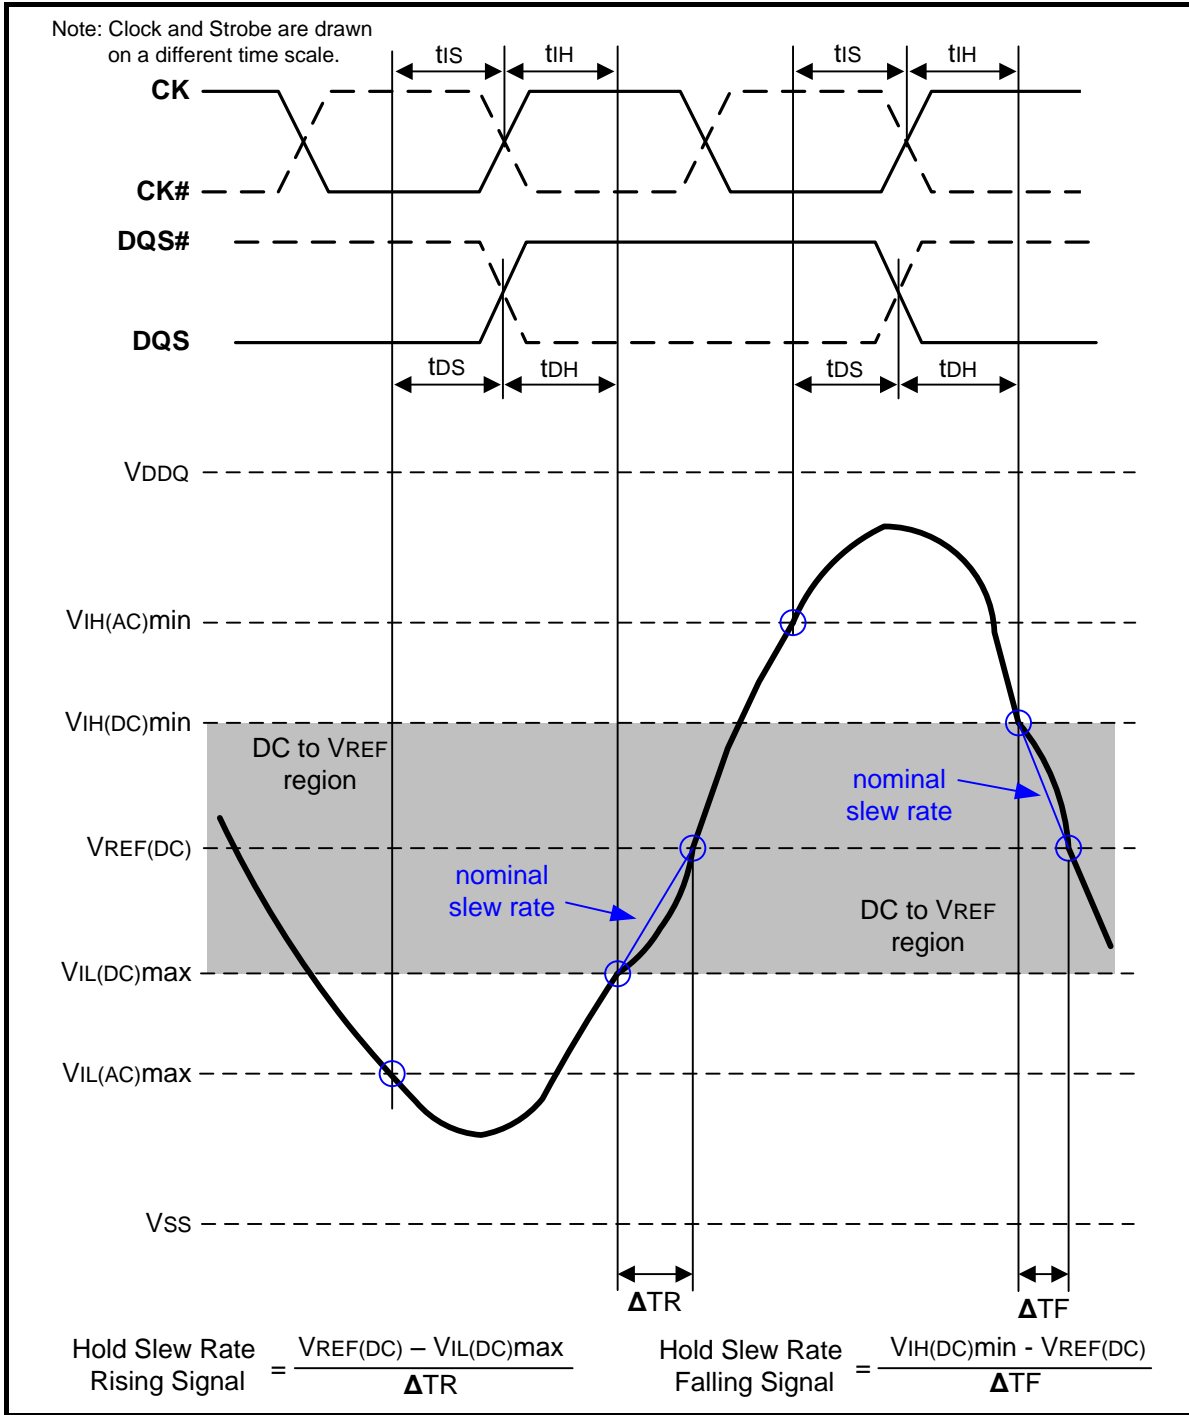
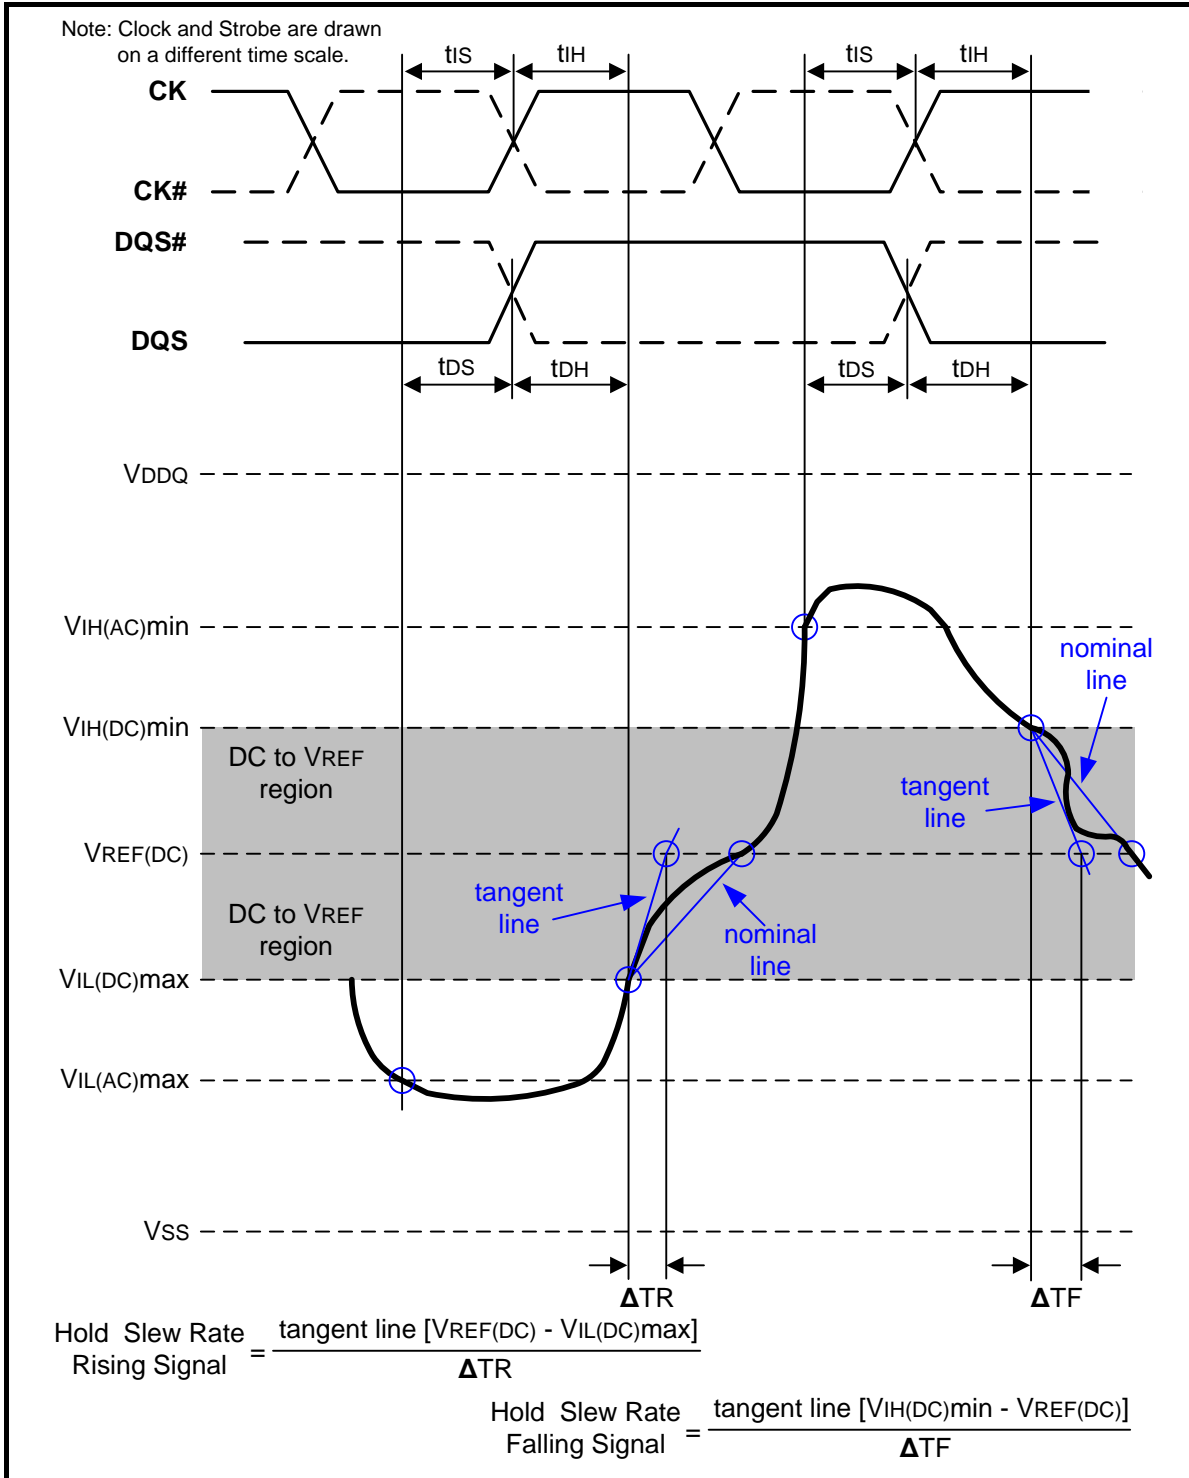

Figure 108 – Illustration of nominal slew rate for hold time tDH (for DQ with respect to strobe) and tIH (for ADD/CMD with respect to clock)
Figure 110 – Illustration of tangent line for for hold time tDH (for DQ with respect to strobe) and tIH (for ADD/CMD with respect to clock)
Hold ( $t_{IH}$ ) nominal slew rate for a rising signal is defined as the slew rate between the last crossing of  $V_{IL}(\text{DC})_{\text{max}}$  and the first crossing of  $V_{REF}(\text{DC})$ . Hold ( $t_{IH}$ ) nominal slew rate for a falling signal is defined as the slew rate between the last crossing of  $V_{IH}(\text{DC})_{\text{min}}$  and the first crossing of  $V_{REF}(\text{DC})$ . If the actual signal is always later than the nominal slew rate line between shaded 'DC to VREF(DC) region', use nominal slew rate for derating value (see Figure 108). If the actual signal is earlier than the nominal slew rate line anywhere between shaded 'DC to VREF(DC) region', the slew rate of a tangent line to the actual signal from the DC level to  $V_{REF}(\text{DC})$  level is used for derating value (see Figure 110).
Hold (tDH) nominal slew rate for a rising signal is defined as the slew rate between the last crossing of VIL(DC)max and the first crossing of VREF(DC). Hold (tDH) nominal slew rate for a falling signal is defined as the slew rate between the last crossing of VIH(DC)min and the first crossing of VREF(DC) (see Figure 108). If the actual signal is always later than the nominal slew rate line between shaded 'DC level to VREF(DC) region', use nominal slew rate for derating value. If the actual signal is earlier than the nominal slew rate line anywhere between shaded 'DC to VREF(DC) region', the slew rate of a tangent line to the actual signal from the DC level to VREF(DC) level is used for derating value (see Figure 110).